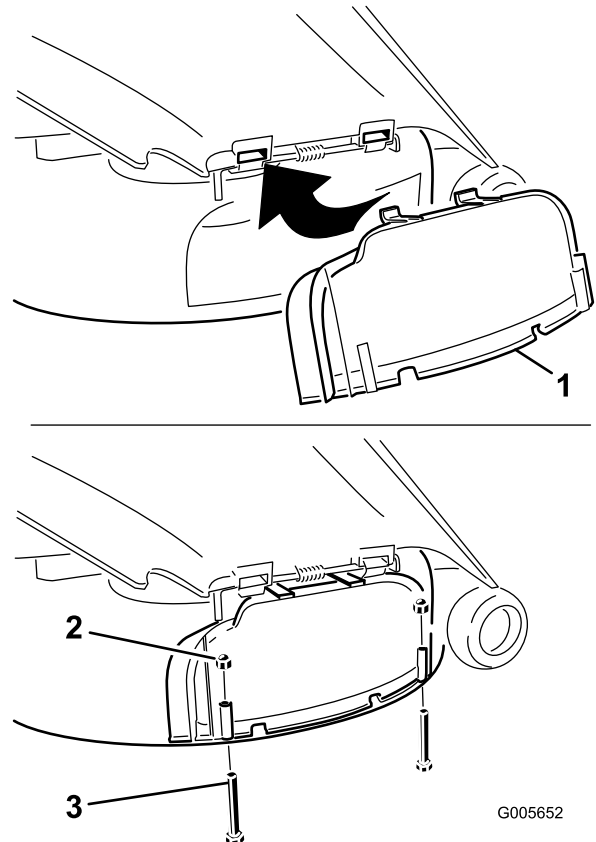

Figure 4
1. Lift the grass deflector and slide the tabs on top of the discharge cover under the grass deflector retaining rod. Rotate the discharge cover down over the opening, and onto the lower lip of the mower (Figure 4).
and two cap nuts (1/4 inch) as shown in Figure 4.